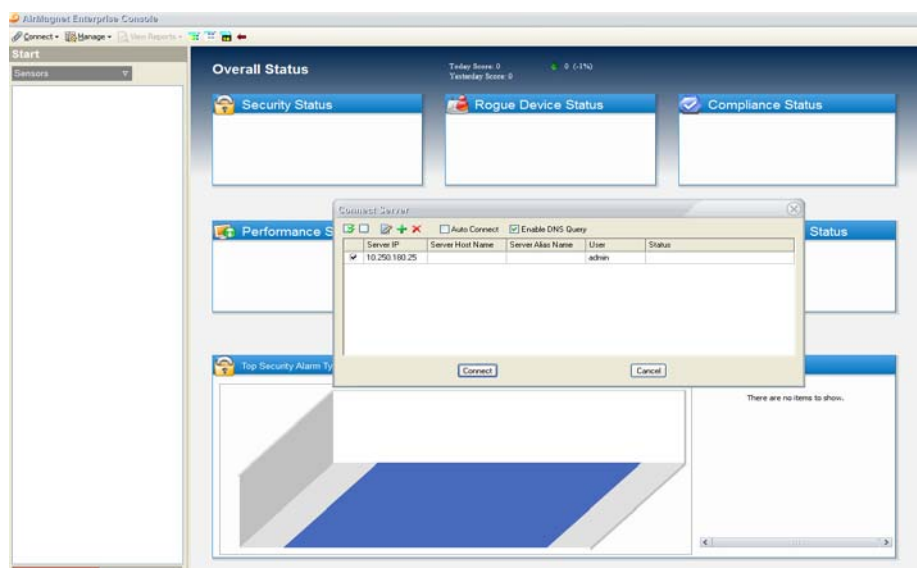

Figure 4-1: Connecting to AirMagnet Enterprise Server
- 1) From your desktop, click **Start**, and select **All Programs>AirMagnet Enterprise Console>Console**. The AirMagnet Enterprise Console screen appears, with the Connect Server dialog box on top of it. See Figure 4-1.